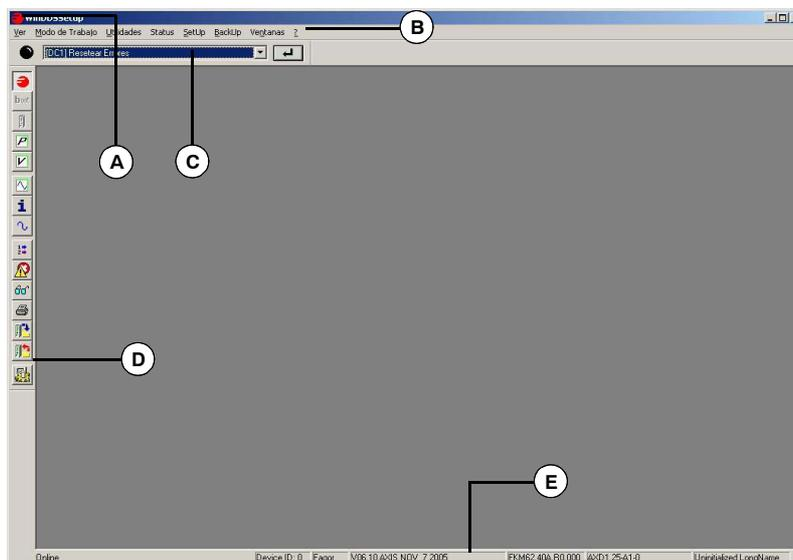

FIGURE S16.2
- **T**oolbar. It displays or hides the tool bar^(D). See FIGURE S16.2.
- **S**tatus Bar. It displays or hides the status bar^(E). See FIGURE S16.2.